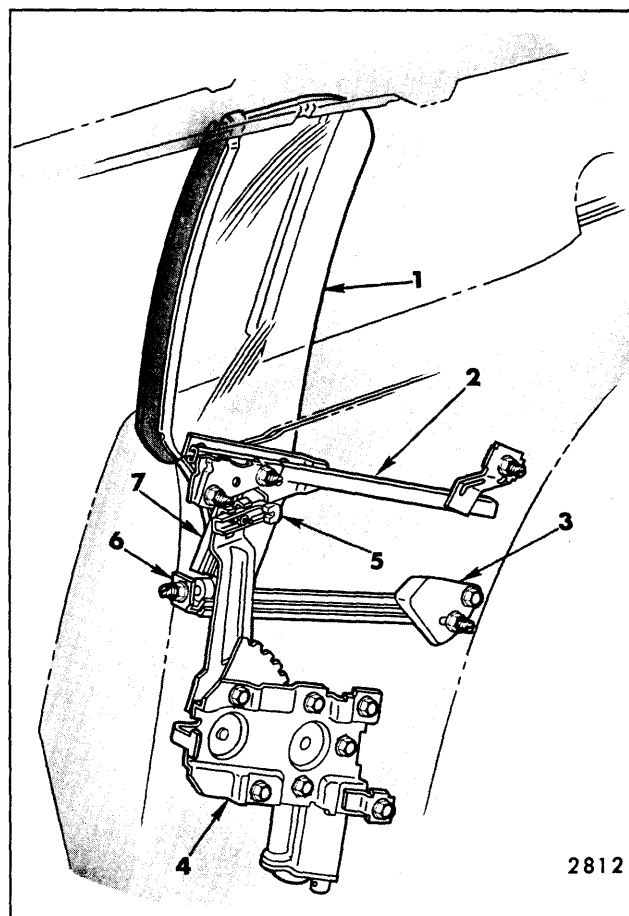
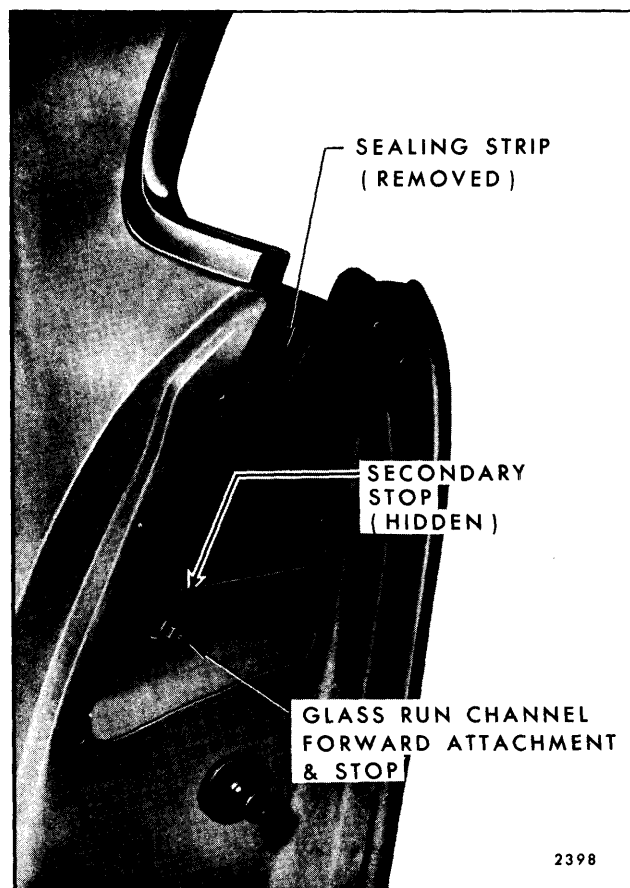

Fig. 7-26—Rear Quarter Hardware - Cadillac "E" Body
Fig. 7-29—Rear Quarter Window Hardware Attachments on Lock Pillar
Figure 7-26 identifies the component parts of the "E-87" rear quarter hardware, their relationship and various attaching points.
Critical rear quarter window adjustments can be achieved at the lock pillar and DO NOT require seat and side wall trim removal (see Fig. 7-29).
2. The forward glass stop can be adjusted fore and aft by loosening lock nut and turning stud in or out (see Fig. 7-29).
3. A slight amount of in or out adjustment of glass is provided by an elongated slot at glass run channel forward attachment (see Fig. 7-29).
4. A secondary glass stop is located in the vertical sash channel cam (Fig. 7-26). This stop is retained by a single bolt and is accessible through lock pillar opening (see Fig. 7-29).